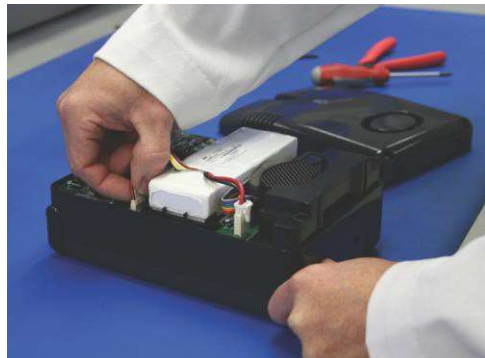

Figure 5.2
2. Carefully disconnect the 8-pin (J1) and 2-pin (J2) connector from the battery pack to the circuit board. (See Figures 5.2 and 5.3.)